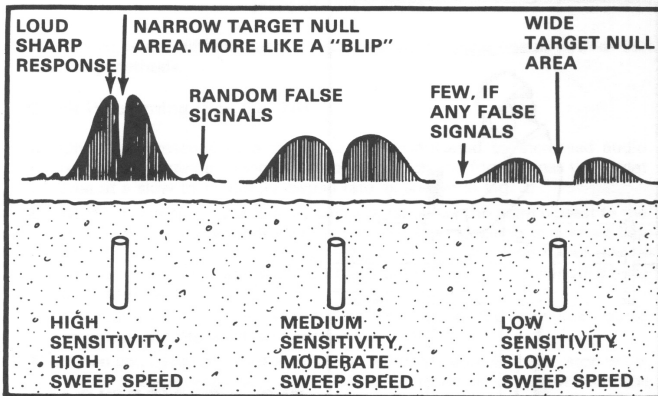

**Figure 3.** Tracing Pipes -Typical FX-3 responses at medium sensitivity and moderate sweep speed.
6. Figures 3 and 4 show some typical responses for buried targets. Fig. 5 shows the effects of changing